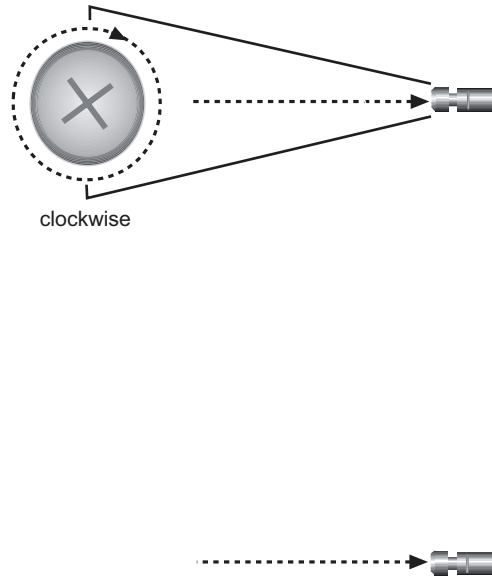

Figure 3-10 Installing the blank faceplate
- 7 Cover the empty chassis slot with a blank faceplate. Tighten the faceplate's top and bottom captive screws using a Phillips screwdriver, as shown in Figure 3-10. Turn both screws several times before tightening them completely.